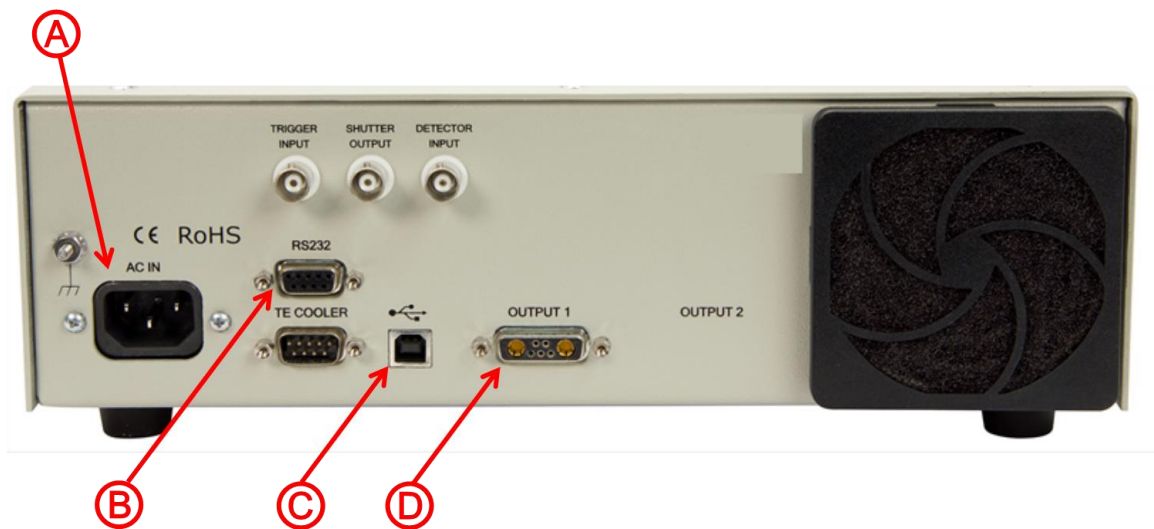

Figure 2 OPS-Q Power Supply Rear Panel Connections
- H. **POWER.** This is the AC mains power switch. In the ON position as shown in Figure 2, AC power will be switched into the main circuitry of the power supply. There is no output from the power supply until the manual or external command to supply power to the lamp is received with the interlock condition satisfied.